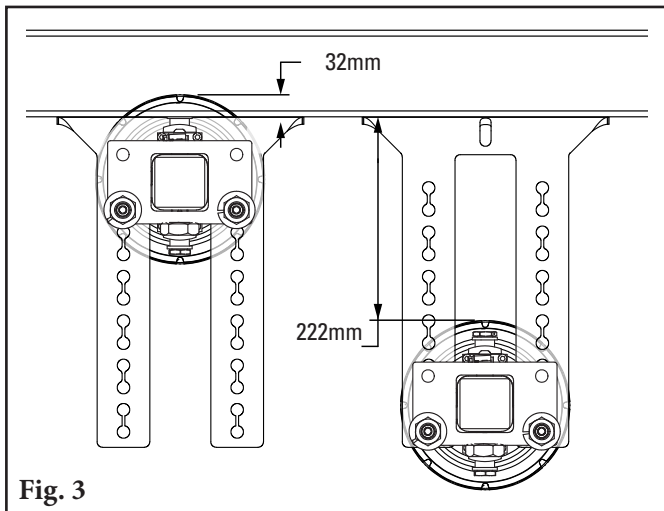

Fig. 3
- 3. Position mounting brackets.** May be mounted to existing idler hole patterns. Overall range of adjustment on brackets is 32mm above the top flange or 222mm below the top flange (Fig. 3).